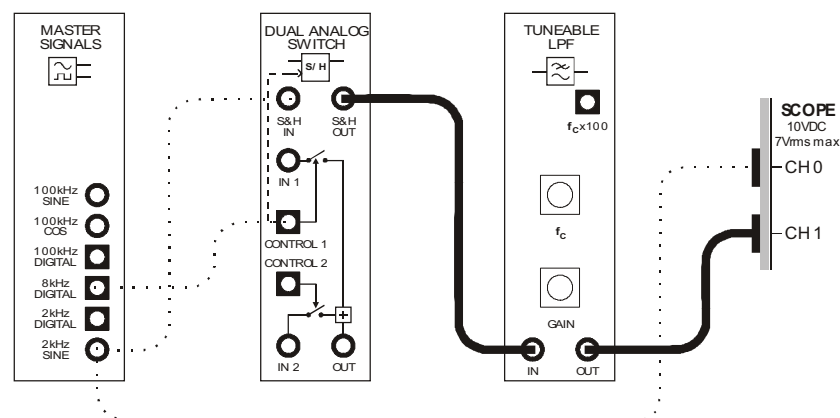
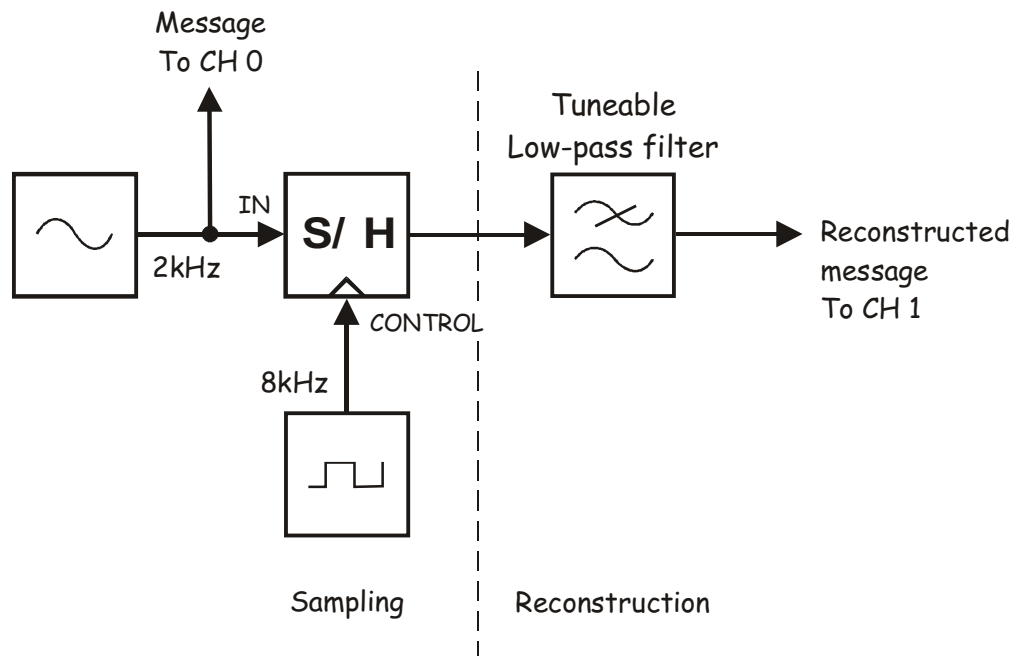

Figure 9
Figure 10
41. Modify the set-up as shown in Figure 9 below.
The set-up in Figure 9 can be represented by the block diagram in Figure 10 below. The Tuneable Low-pass Filter module is used to recover the message. The filter is said to be “tuneable” because the point at which frequencies are rejected (called the *cut-off frequency*) is adjustable.